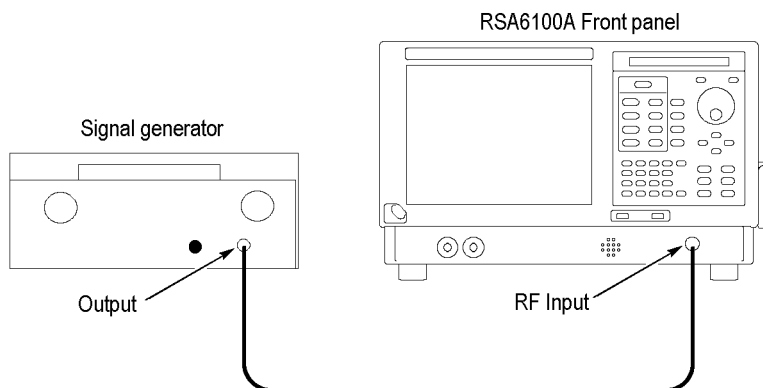

Figure 15: Equipment connections for Signal Spurious check
1. Connect the RF generator to the RSA6100A RF Input. (See Figure 15.)